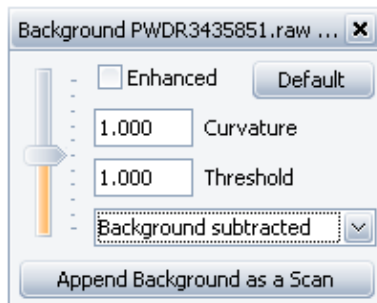

Figure 4. Background Dialog Box.
1. Select **Data Command Panel > Tools > Background** to open the Background dialog box (Figure 4).